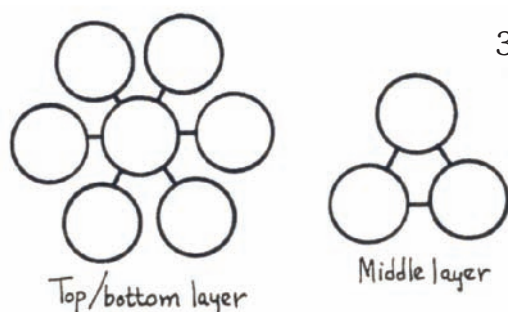

Figure 4.8. Hexagonal-Closest Packing Crystal.
3. Magnesium (Mg) and zinc (Zn) are atomic crystalline solids that pack in a hexagonal-closest packing arrangement. Use 17 2-in.-diameter balls and 15 toothpicks to form three layers of a hexagonal-closest packing crystal, as illustrated in Figure 4.8 (the top layer is the same as the bottom layer). Put the layers together like a sandwich. Draw a picture of this atomic crystalline solid.